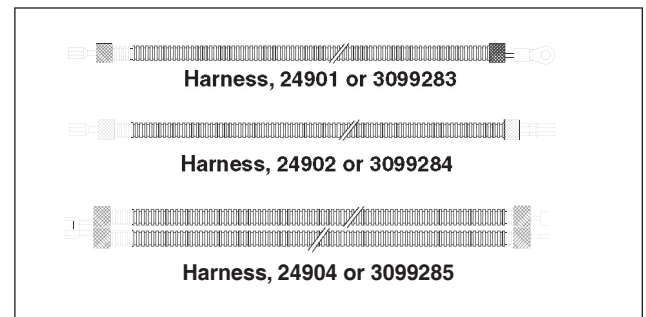

FIG. 8
2. Locate Switch ground harness. This harness is labeled "024901" or "3099283" (see Fig. 8). It is approximately 24" long and contains a green wire with a spade connector at one end and a ring terminal at the other end.
1. Dash Switch/ECM Connection. Locate ECM/Switch connector subharness, marked "024902" or "3099284" (see Fig. 8). This harness is approximately 60" long, and consists of two green wires terminating in a spade connector on one end and Deutsch sockets on the other end. Connect the harness as follows:
2. ECM/Ground Connection. Locate the harness marked "024904" or "3099285" (see Fig. 8). Connect the harness as follows:
2. ECM/Ground Connection. Locate the harness marked "024904" or "3099285" (see Figure 8). Connect the harness as follows: